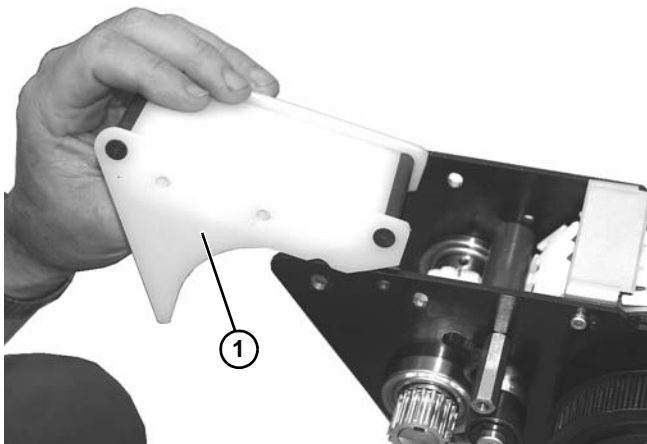

Figure 166
10. Remove wear bar assembly (**Figure 166, item 1**) from power transfer.